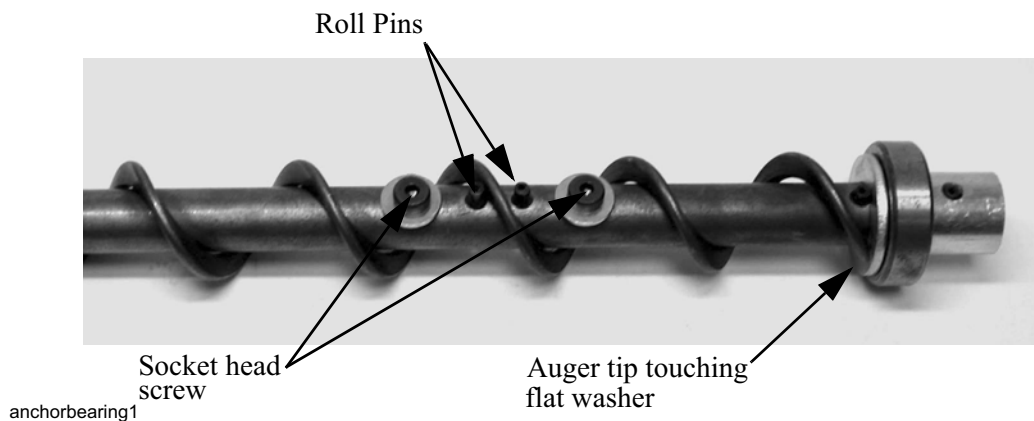

Figure 40. Anchor Bearing
12. Insert the Anchor Assembly into the auger until it touches the washer at the back of the anchor. Tighten the setscrews in the center of the anchor until they touch the auger, then tighten a maximum of 1/2 turn. See **Figure 40**.